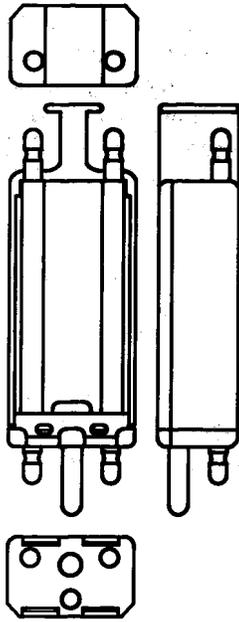

Fig. 9—524A Plug
2.09 524A: The 524A plug (Fig. 9) is for accessing cable pairs at the 136A1A-52 protector. The 524A plug is an adaptation of the 4A protector unit in which the two line connecting pins are extended through the housing to permit clip-on test leads to be attached. This plug is for use in the J98717K Pair Measuring Set.